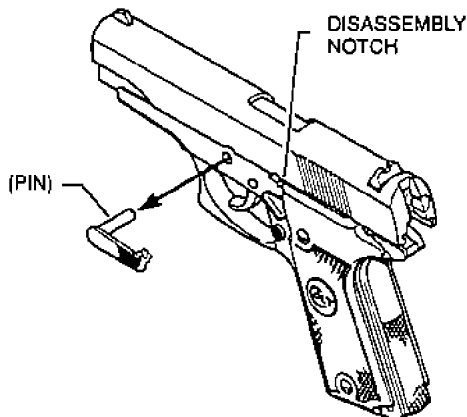

FIGURE 8—REMOVING SLIDE STOP
5. **(A & B)** Pull slide to rear until lug on slide stop is opposite disassembly notch (See Figure 8) and push rounded end of pin of slide stop (on right of receiver) inward and through receiver to disengage slide stop from slide.
6. **(A & B)** Lift out slide stop. (See Figure 8)